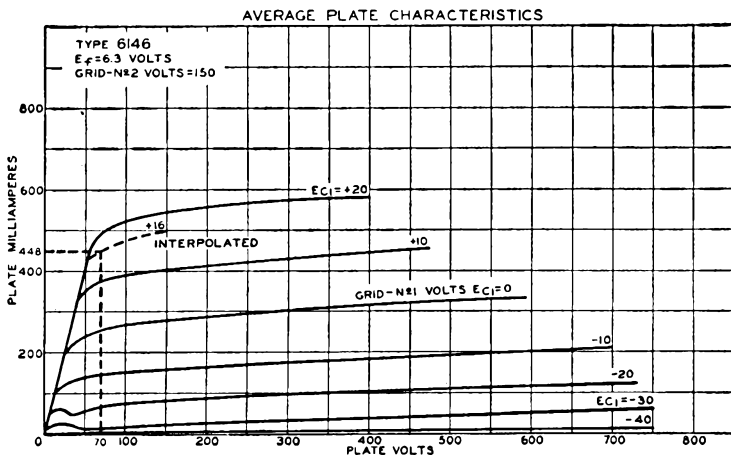

Fig. 44
(3) From the plate family for the 6146 given in Fig. 44 ( $E_{c2}=150$  volts), a suitable value for effective minimum plate voltage ( $e_{b\min}$ ) to the right of the "knee" is 70 volts. The corresponding peak positive grid-No.1 voltage ( $e_{c1\max}$ , determined from  $E_{c1}$  curves) for a peak plate current of 448 milliamperes is approximately +16 volts.
(4) From Table I,  $K_2$  for a conduction angle of 140 degrees is 0.862. Therefore, power output ( $P_o$ ) = 0.862  $\times$  (600-70)  $\times$  0.112 = 51 watts.
(5) Plate dissipation ( $P_p$ ) = (600  $\times$  0.112) - 51 = 16.2 watts. This value is well within the maximum plate-dissipation rating of the 6146 for class C telegraphy under CCS conditions (20 watts).
(6) The dc grid-No.1 or bias voltage ( $E_{c1}$ ) and peak rf grid-No.1 voltage ( $E_{g1}$ ) are calculated next. (Note that bias voltage  $E_{c1}$  is not the  $E_{c1}$  shown in the characteristics curves, which represents total grid voltage, *i.e.*, the algebraic sum of the bias  $E_{c1}$  and peak rf grid-No.1 voltage  $e_{c1\max}$ ). From table I,  $K_3$  and  $K_4$  for a conduction angle of 140 degrees are, respectively, 0.520 and 1.520. From the technical data for the 6146, mu-factor ( $\mu_{g2g1}$ ) is 4.5. Therefore,